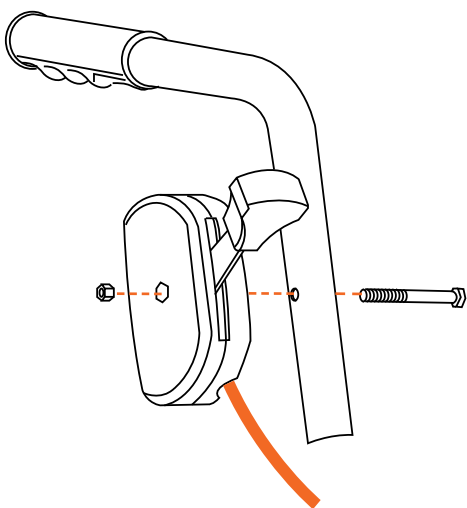

Figure 7
2. Push a socket cap screw through the base of the lever and secure with a nylock hex nut (see Figure 7).